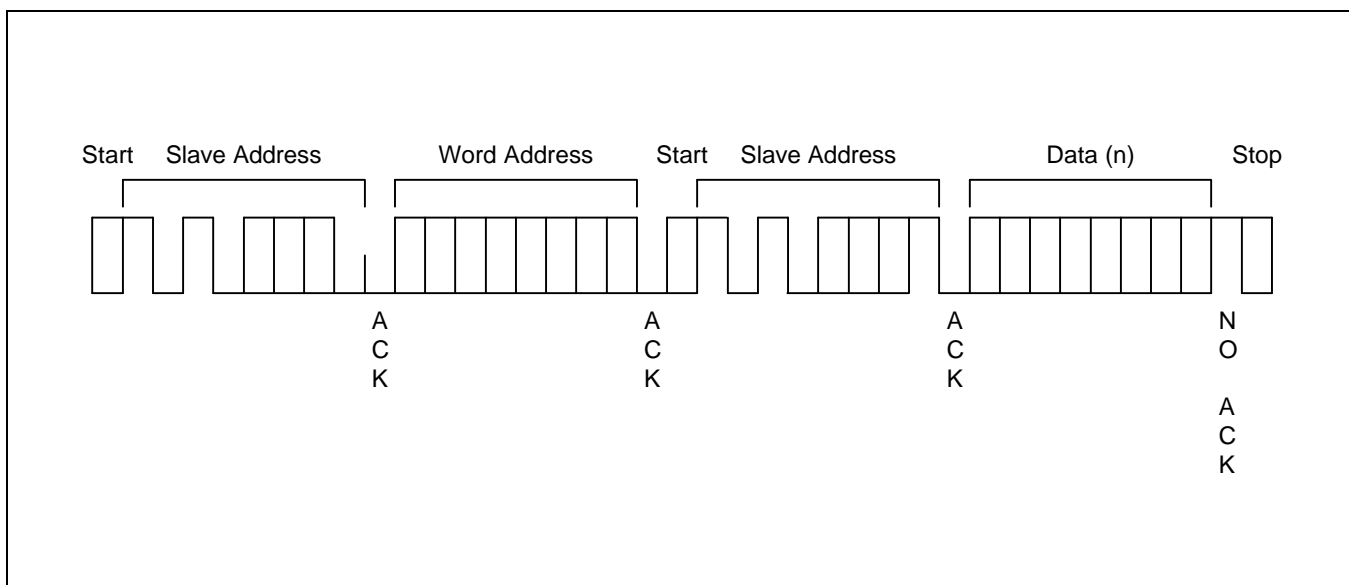

Figure 2-14. Random Address Byte Read Operation
5. In response, the KS24A010/020/040 stops transmitting data and reverts to its stand-by mode (see Figure 2-14).